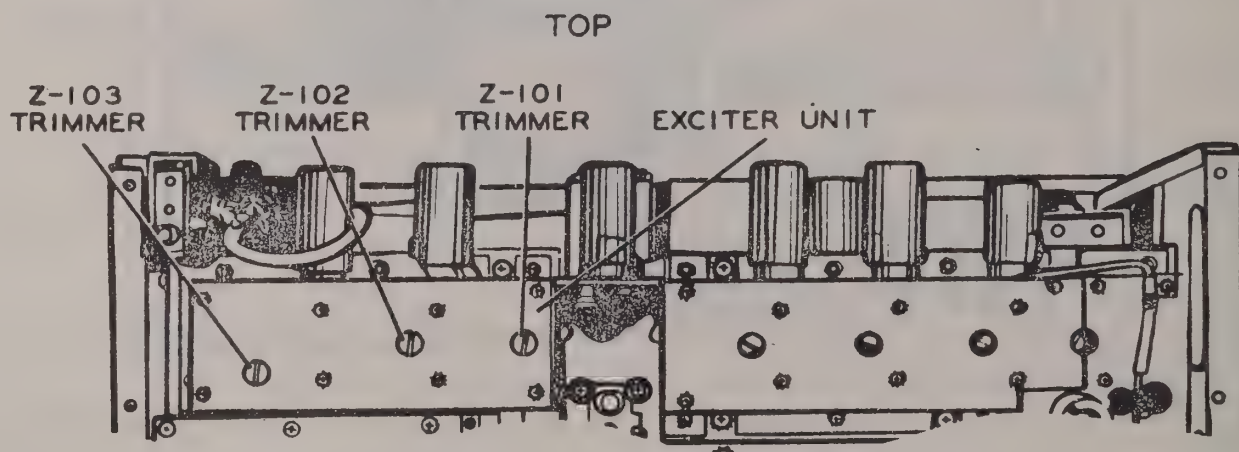

Figure 3-16 Radio Transmitter T-217A/GR, Partial Rear View, Cover Removed.
(17) Using a nonmetallic screwdriver, adjust trimmers Z-101, Z-102, and Z-103 until the reading on the VTVM is maximum. See Figure 3-16.
(18) Set the VOICE-MCW CARRIER ON switch to VOICE.
(19) Set the three numbered CHANNEL switches to 360.5 mc and set the TRACKING CONTROL switch to OFF. DO NOT allow the Exciter Unit drive gear to move during the channeling from 380.5 to 360.5 mc.
(20) Recouple the gear train to the Exciter Unit drive gear.
(21) Replace V-405 in its socket and set the TRACKING CONTROL switch to NORMAL.
(22) Repeat Steps (16), (17) and (18).
(23) Align tuning capacitors in Z-101, Z-102, and Z-103 circuits as outlined in the following steps: